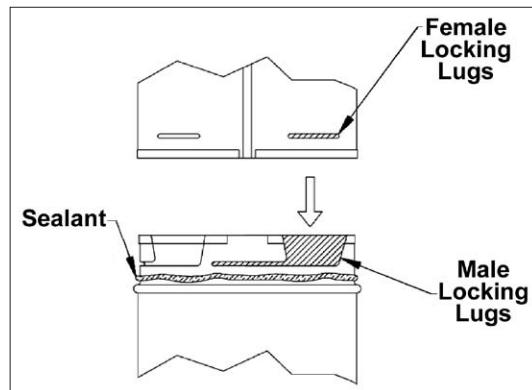

Figure 34: Twist-Lock Connection.
- (1) Twist-lock procedure: Four (4) indentations, located on the female ends of pipes and fittings, are designed to slide straight onto the male ends of adjacent pipes and fittings, by orienting the four pipe indentations so they match and slide into the four (4) entry slots on the male ends. Push the pipe sections completely together, then twist-lock one section clockwise approximately one-quarter turn, until the two (2) sections are fully locked.
- (2) Horizontal runs of vent must be supported every 3 feet (915mm). Wall Straps are available for this purpose.
- (3) Sealant is only necessary on the outer tube of the GS Pipe. Run a $\frac{1}{8}$ inch (3mm) wide bead of sealant around the male end of the outer sleeve, as shown in Figure 34, and twist-lock the pipes or fittings together.